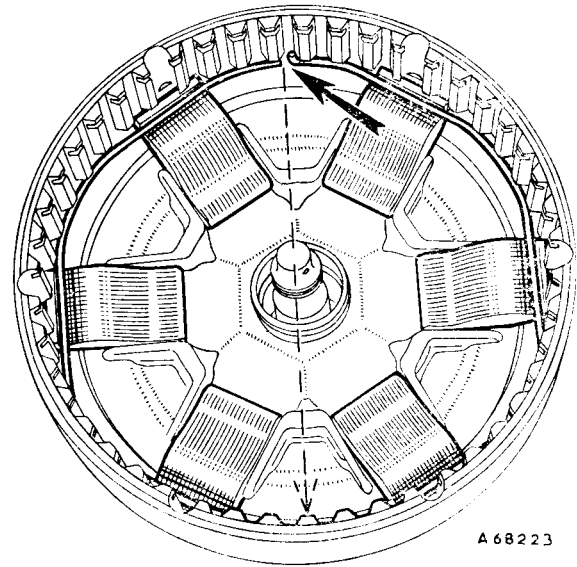

Fig. Fa.40
11. 47-TOOTH CLUTCH. Assemble the toggles and spring ring (early units) with the end of the spring-ring located as shown in Fig. Fa.40, and with the cut-out tooth on the pressure plate in the relative position to the ends of the spring ring (Fig. Fa.41). Assemble the first friction plate and the piston return springs.